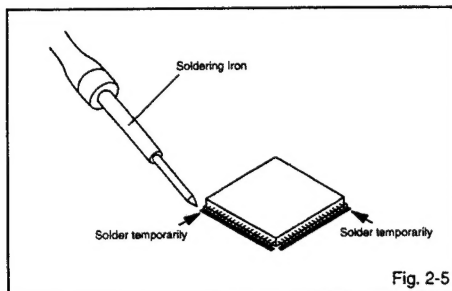

Fig. 2-5
1. Take care of the polarity of new IC and then install the new IC fitting on the printed circuit pattern. Then solder each lead on the diagonal positions of IC temporarily. (Refer to Fig. 2-5.)